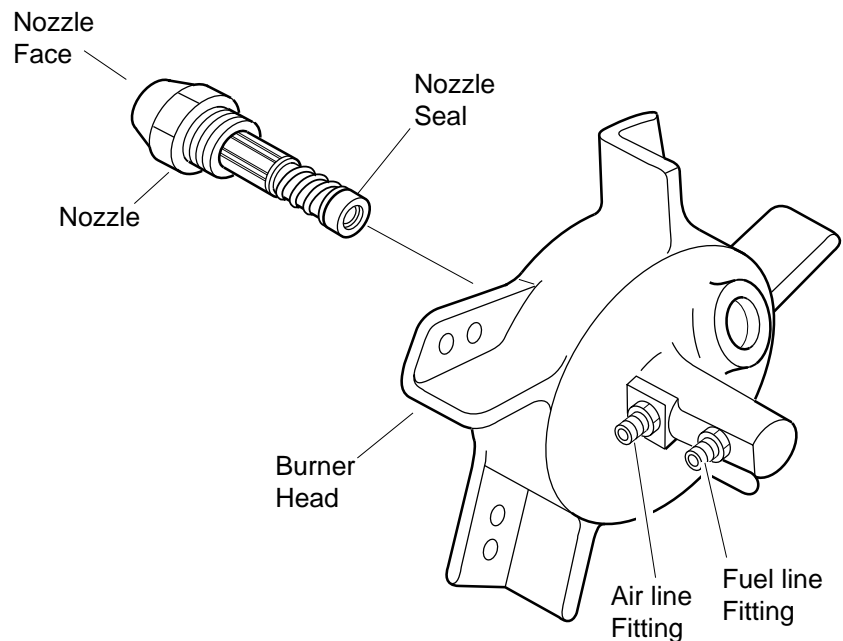

Figure 24 - Removing Nozzle, 20,5/26,4 kW (70/90,000 Btu/Hr) Models
8. Carefully remove nozzle from burner head using 5/8" socket wrench (see Figure 24).